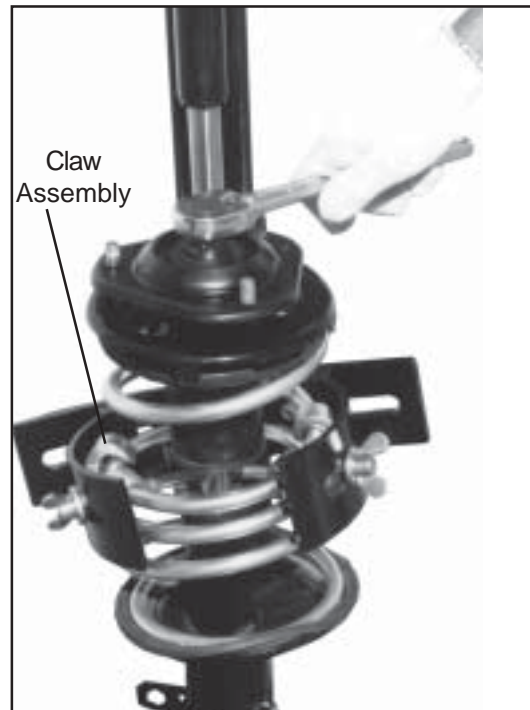

Figure 10
2. Secure the spring with claws of spring clasp (*refer Fig. 10*).